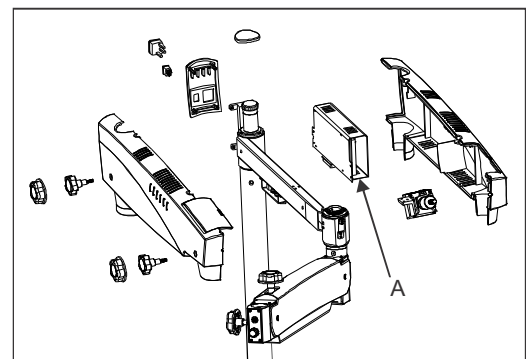

Fig. 8
Note: Power supply is designed with universal input 100V-240V AC, 50/60Hz. To plug in follow instruction on electrical label provided at bottom of the arm as shown (3) here in Fig. 8.